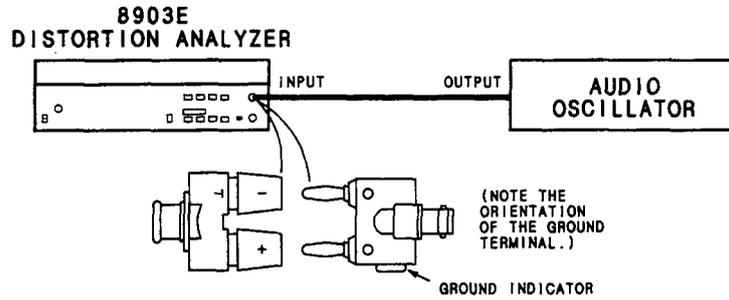

Figure 4-4. Input Impedance Test Setup
5. Connect the equipment as shown in Figure 4-4. Note how the cable connects to the Distortion Analyzer's input through the two adapters. The adapters reverse the outer and inner conductor connections to the cable.